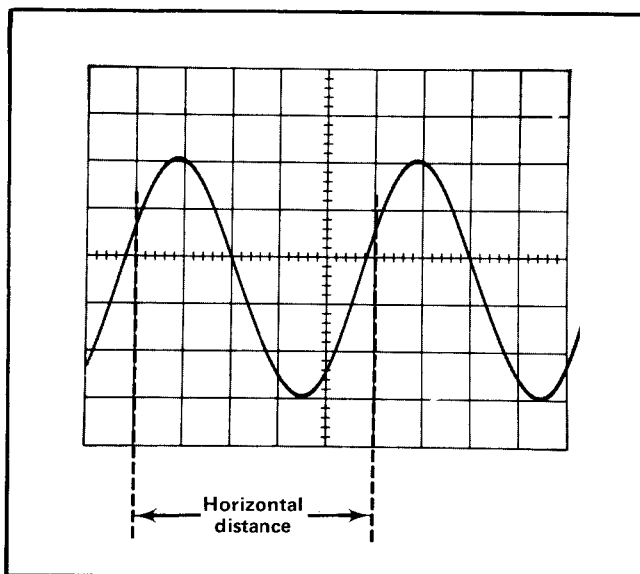

Fig. 2-19. Measuring the time duration between points on a waveform.
5. Set the TIME/DIV switch to the fastest sweep rate that displays less than eight divisions between the time measurement points (see Fig. 2-19). (See the topic entitled Selecting Sweep Rate in this section concerning non-linearity of first and last divisions of display.)
Example. Assume that the horizontal distance between the time measurement points is five divisions (see Fig. 2-19) and the TIME/DIV switch is set to .1 ms with the magnifier off.
Example. The frequency of the signal shown in Fig. 2-19 which has a time duration of 0.5 millisecond is: